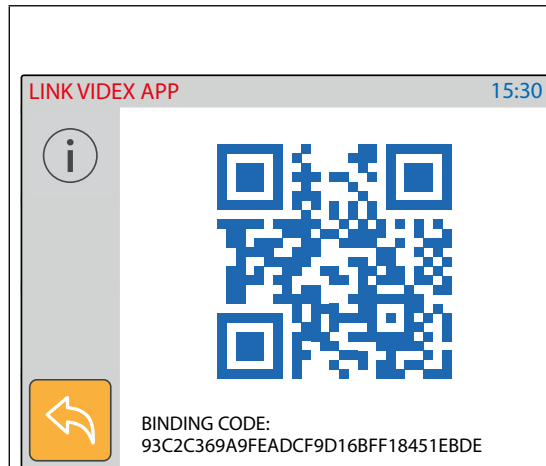

Fig. 23 Binding code
- The screen will show the "BINDING CODE" QR Code and text format (**Fig. 23 on page 21**).